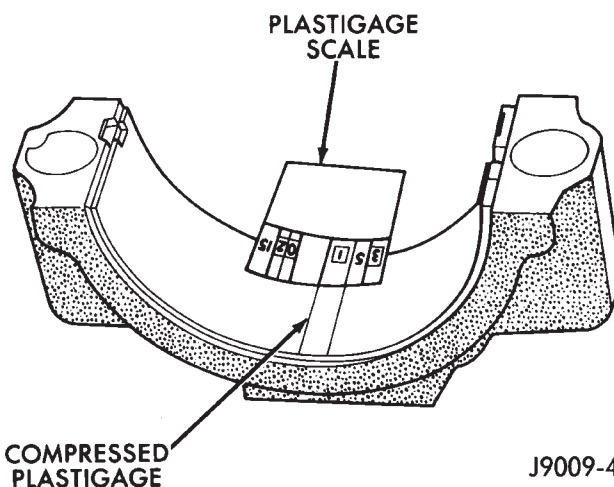

Fig. 7 Measuring Bearing Clearance with Plastigage
(5) Install the lower bearing insert in the bearing cap. The lower insert must be dry. Place strip of Plastigage across full width of the lower insert at the center of bearing cap. Plastigage must not crumble in use. If brittle, obtain fresh stock.
(6) Install bearing cap and connecting rod on the journal and tighten nuts to 45 N·m (33 ft. lbs.) torque. DO NOT rotate crankshaft. Plastigage will smear, resulting in inaccurate indication.
(7) Remove the bearing cap and determine amount of bearing-to-journal clearance by measuring the width of compressed Plastigage (Fig. 7). Refer to Engine Specifications for the proper clearance. **Plastigage should indicate the same clearance across the entire width of the insert. If the clearance varies, it may be caused by either a tapered journal, bent connecting rod or foreign material trapped between the insert and cap or rod.**
(8) If the correct clearance is indicated, replacement of the bearing inserts is not necessary. Remove the Plastigage from crankshaft journal and bearing insert. Proceed with installation.
(9) If bearing-to-journal clearance exceeds the specification, install a pair of 0.0254 mm (0.001 inch) undersize bearing inserts. All the odd size inserts must be on the bottom. The sizes of the service replacement bearing inserts are stamped on the backs of the inserts. Measure the clearance as described in the previous steps.
(10) The clearance is measured with a pair of 0.0254 mm (0.001 inch) undersize bearing inserts installed. This will determine if two 0.0254 mm (0.001 inch) undersize inserts or another combination is